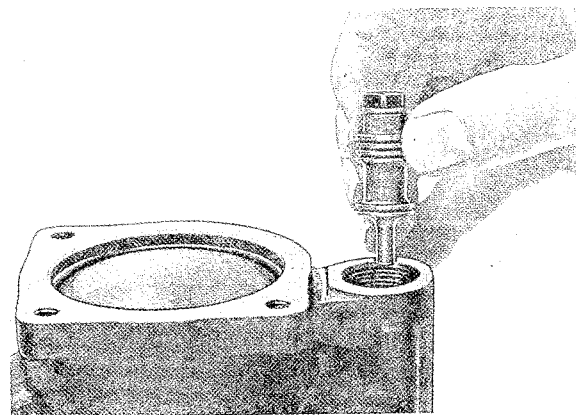

Fig. 6-104. Installing control valve
12. Install the control valve piston (Fig. 6-104). Install the spring (26), packing (24) and plug (23).